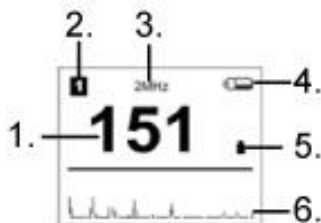

Fig. 3-4 LCD display
1. Switch on the device by pressing the power button (the LCD display is as shown in Fig. 3-4).